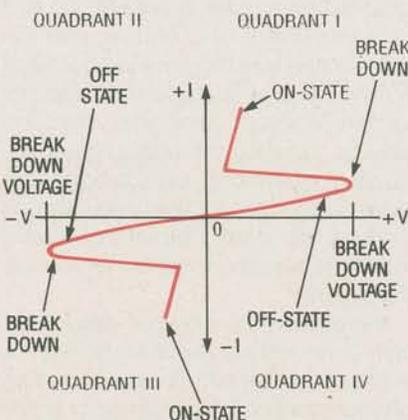

Fig. 2. This is the characteristic curve of a Triac without gate current. It is a plot of the voltage across the main terminals versus the current through them.
To help you understand how they operate, take a look at Fig. 2, which is a "characteristic curve" of a Triac. Let's consider quadrant I—the upper right—of the graph first. That's where the current and voltage are both positive. The voltage (V) is applied between the two main terminals, and the current (I) is the current that flows between those terminals.